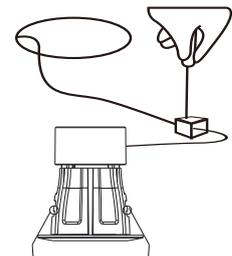

Fig 3.
- Fit the downlighter into the hole (see fig 3.) in the ceiling with the 2 spring clips supplied. (see fig 4.)